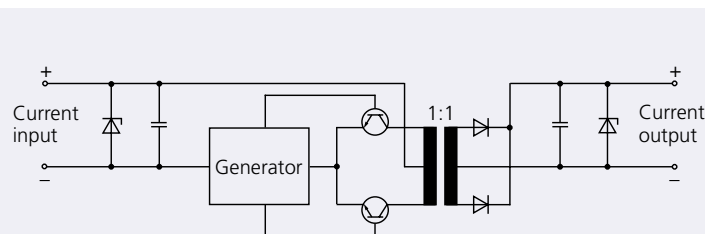

Figure 3: Schematic diagram of an isolator with transformer isolation
The transformers are not suitable for the transmission of direct current (DC) signals. The DC measuring signal is therefore first converted into an alternating voltage using an electronic chopper. This AC voltage is transmitted to the secondary circuit by a transformer, where it is rectified in sync with the chopper frequency (see Figure 3) and then amplified or converted if necessary.